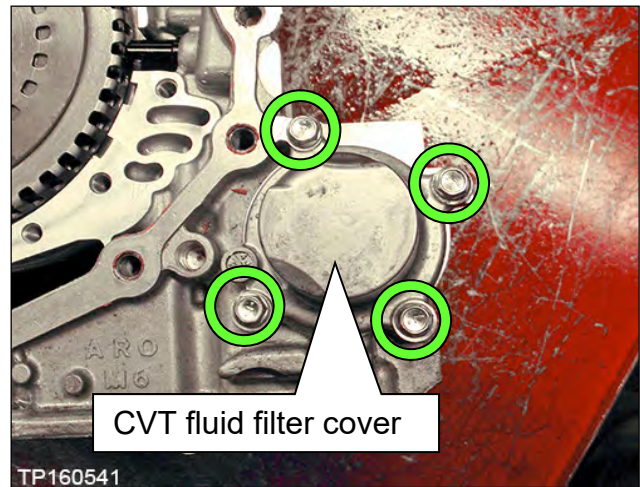

Figure 53
- a. Remove the four (4) bolts and then remove the CVT fluid filter cover (Figure 53).